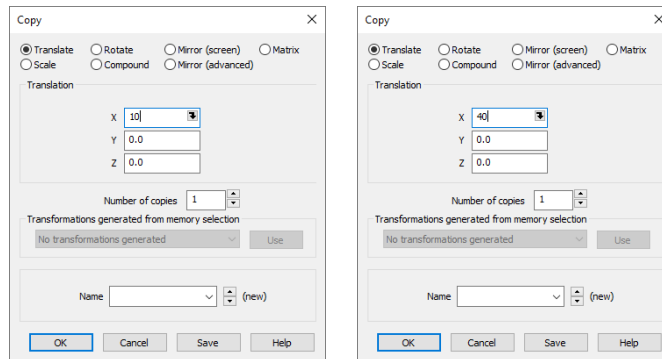

Figure 3: Make copies of points on the centreline
- Then without deselecting the points, re-select the same menu item, enter an X translation of **40** and click **OK**. (figure 3).